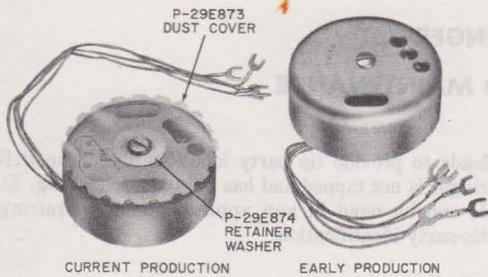
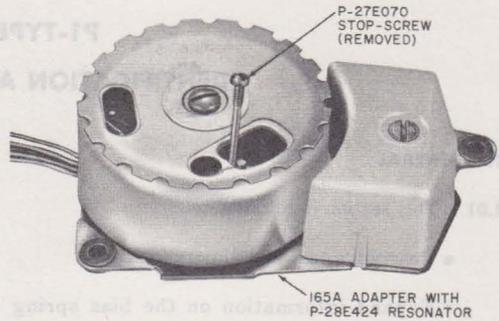
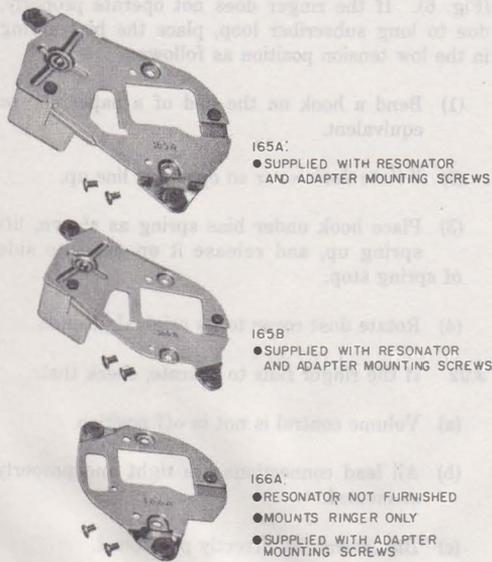

Fig. 1—PIA Ringer
Fig. 3—P1-Type Ringer Mounted on 165A Adapter
Fig. 2—P1-Type Ringer Adapter Plates
2.01 The P1-type ringer (Fig. 1) is a single-coil, high impedance ringer mounted directly in a telephone set or by means of a 165- or 166-type adapter (Fig. 2). The 165-type adapter is equipped with a P-28E424 resonator (Fig. 3).
2.03 The volume control can be moved to the cutoff position by rotating the dust cover until the openings line up with the access holes in the top of the gong and removing the factory placed P-27E070 stop screw (Fig. 3).
2.01 The 425A (Fig. 1) and 425A (Fig. 2) tubes are permanently mounted on plastic angle brackets with a No. 6 self-tapping screw provided for mounting the bracket. Pre-drilled countersinks for mounting the bracket are provided for approximately 6 inches long are provided for connection to other equipment.
3.01 The 425A electron tube (Fig. 1) is a 3-electrode hot gas diode cathode tube with three spigot tip cathodes, red, yellow, and black. A